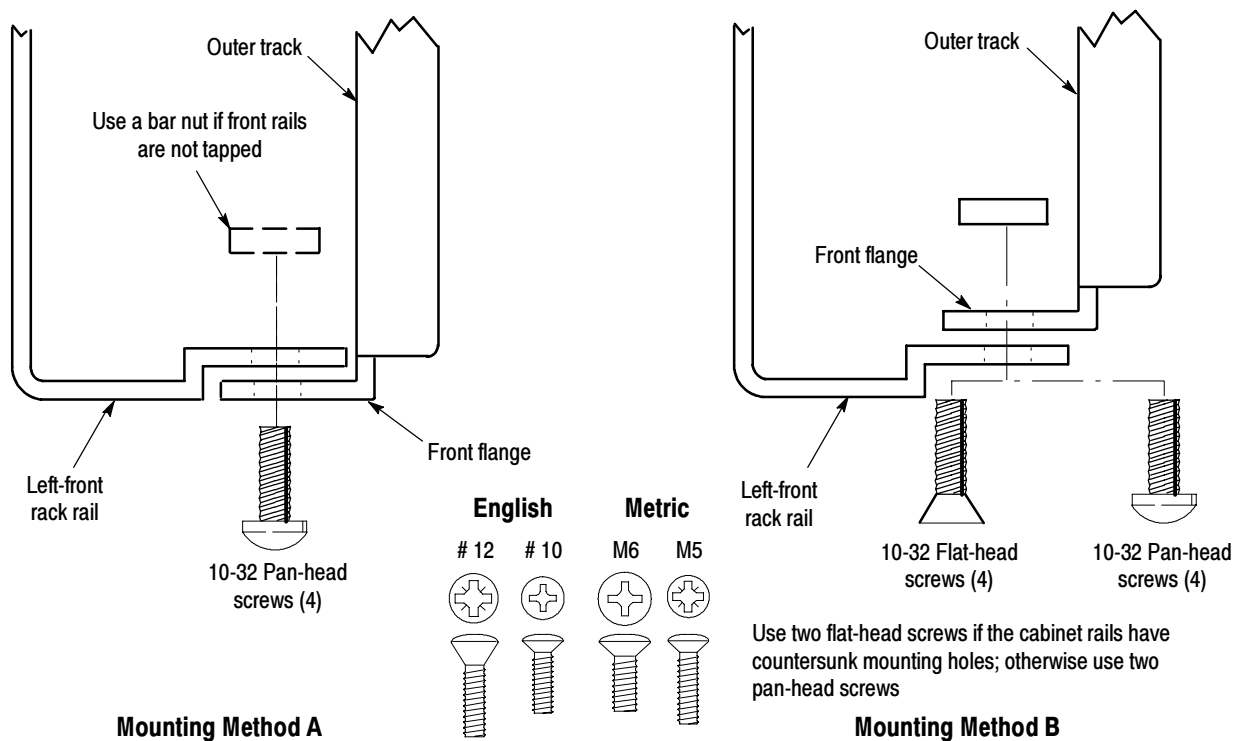

Figure 17: Installation of slide-out track assemblies in rack (top view)
- To mount the slide-out tracks with their front and rear flanges outside of the front and rear rails, use the mounting method A shown in Figure 17 when doing substep c. Add a bar nut to the installation only if the rails have untapped holes.
- To mount with front and rear flanges inside of rails, use the mounting method B outlined in Figure 17. This mounting method assumes untapped holes.